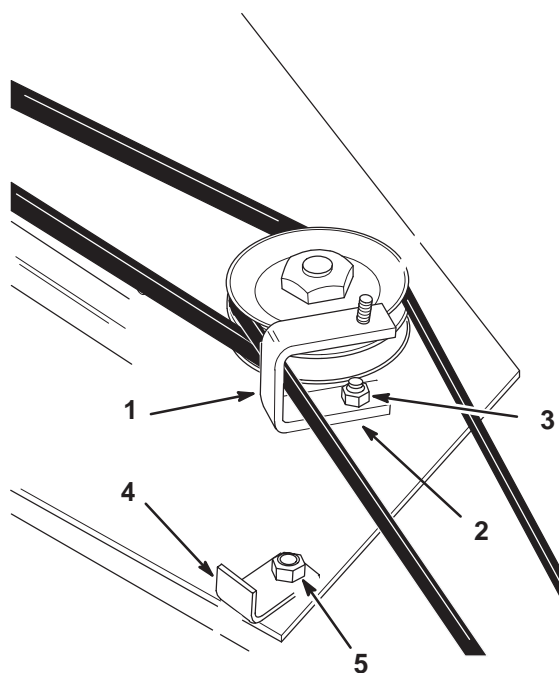

Figure 6
1. Fasten the spring clip to the deck using a 3/8"-16 x 3/4" (19 mm) bolt, with head below housing, and secure with locknut (Fig. 6).
2. Remove the existing hardware from spindle mounting hole, then fasten the belt shield bracket to the spindle hole using a 3/8"-16 x 1-1/4" (32mm) bolt, washer under the bracket, and locknut (Fig. 6).
7. Install the drive belt as shown around the idler pulleys and right side mower pulley (Figs. 6 and 10).